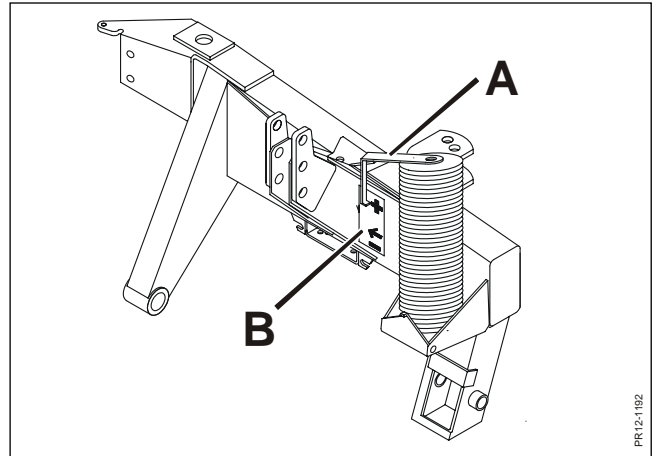

Fig. 3-8
- Fig. 3-8** Adjust the double-acting hydraulic outlet to floating position. Raise/lower the link arms until the machine is at the correct working height. This is obtained when the indicator **A** is at level with the arrow on the transfer **B** as described in chapter 2.
NB: Irregular stubble or uneven driving in the field can be rectified by choosing an adjustment as shown in Fig. 3-8.